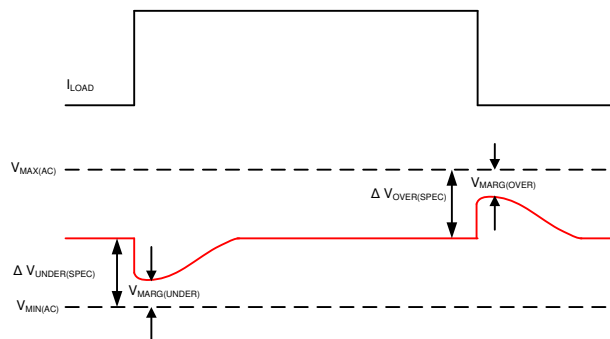
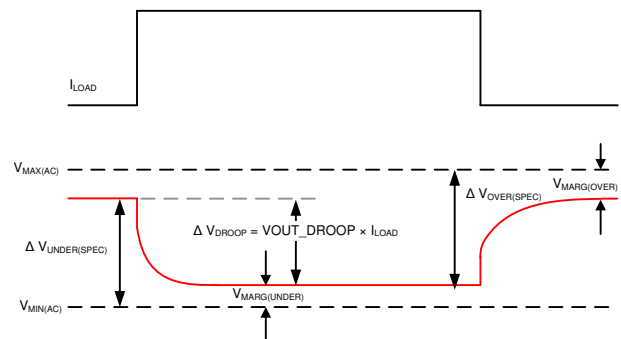

図 7-17. Load transient specification (zero load line)
図 7-18. Load transient specification (non-zero load line)
- Adaptive voltage positioning increases the allowable undershoot and overshoot during load transient events. 図 7-17 and 図 7-18 compare example output voltage specifications for systems with zero load line and non-zero load line. The nominal setting for the output voltage is chosen to be higher, to allow the entire transient window as margin for transient overshoot and undershoot.